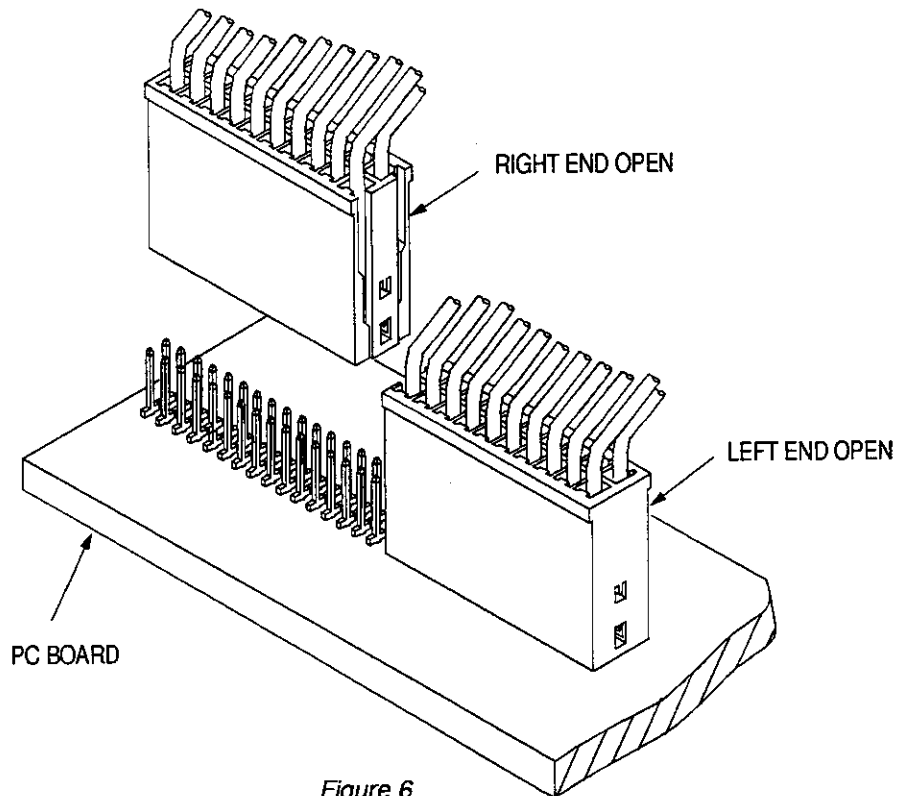

Figure 6
4. STACKING HOUSINGS (Figure 6)